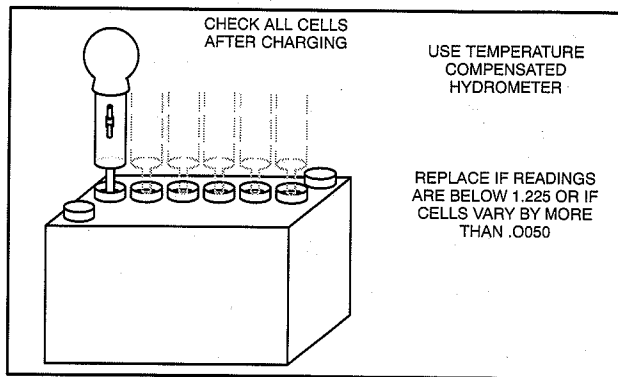

Fig. 37 - Checking 12 V Battery Cells (Lead Acid, Wet Cell, Dry Charge)
4. With battery fully charged, check specific gravity readings of each cell with a Battery Hydrometer and record readings (Fig. 37). All readings should be above 1.250 (compensating for temperature). If specific gravity readings varied .50 or if all cells read less than 1.225, replace battery.